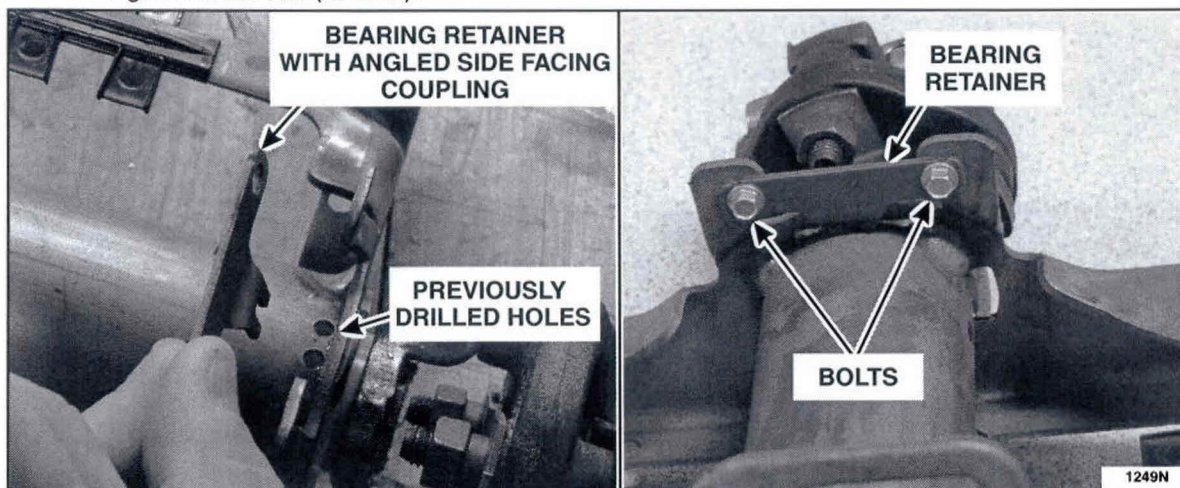

FIGURE 10
8. Position the bearing retainer to the upper steering shaft coupling with the angled side facing the steering column. Install the bearing retainer into the two previously drilled holes and install two supplied bolts. See Figure 10.